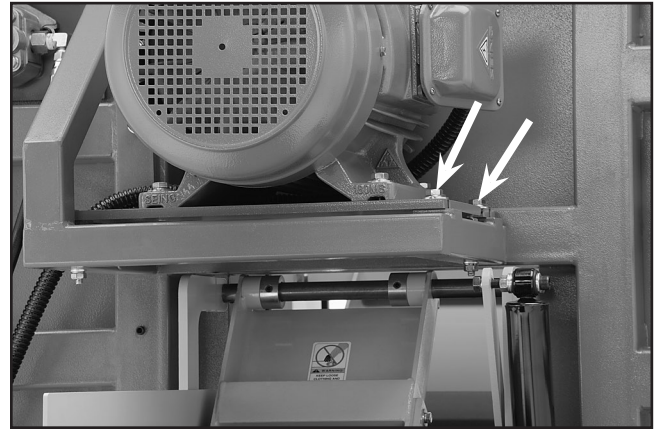

Figure 36. Large pulley cover attachment bolts.
2. Adjust the belt tension by using the motor mount hex bolts shown in **Figure 36**.